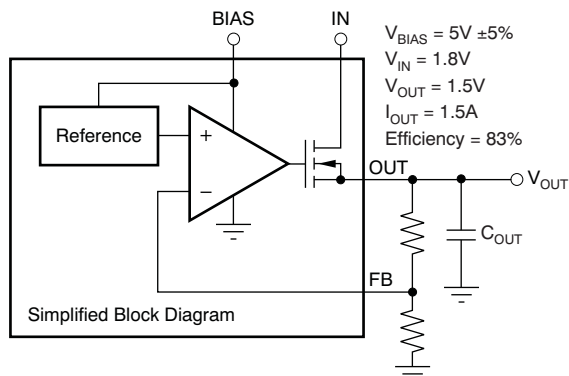

Figure 25. Typical Application of the TPS748 Using an Auxiliary Bias Rail
There are two different specifications for dropout voltage with the TPS748. The first specification (shown in Figure 25) is referred to as  $V_{IN}$  Dropout and is used when an external bias voltage is applied to achieve low dropout. This specification assumes that  $V_{BIAS}$  is at least 3.25 V(2) above  $V_{OUT}$ , which is the case for  $V_{BIAS}$  when powered by a 5.0-V rail with 5% tolerance and with  $V_{OUT} = 1.5$  V. If  $V_{BIAS}$  is higher than  $V_{OUT} + 3.25$  V(2),  $V_{IN}$  dropout is less than specified.
See Figure 25 for a simplified version of the final circuit.